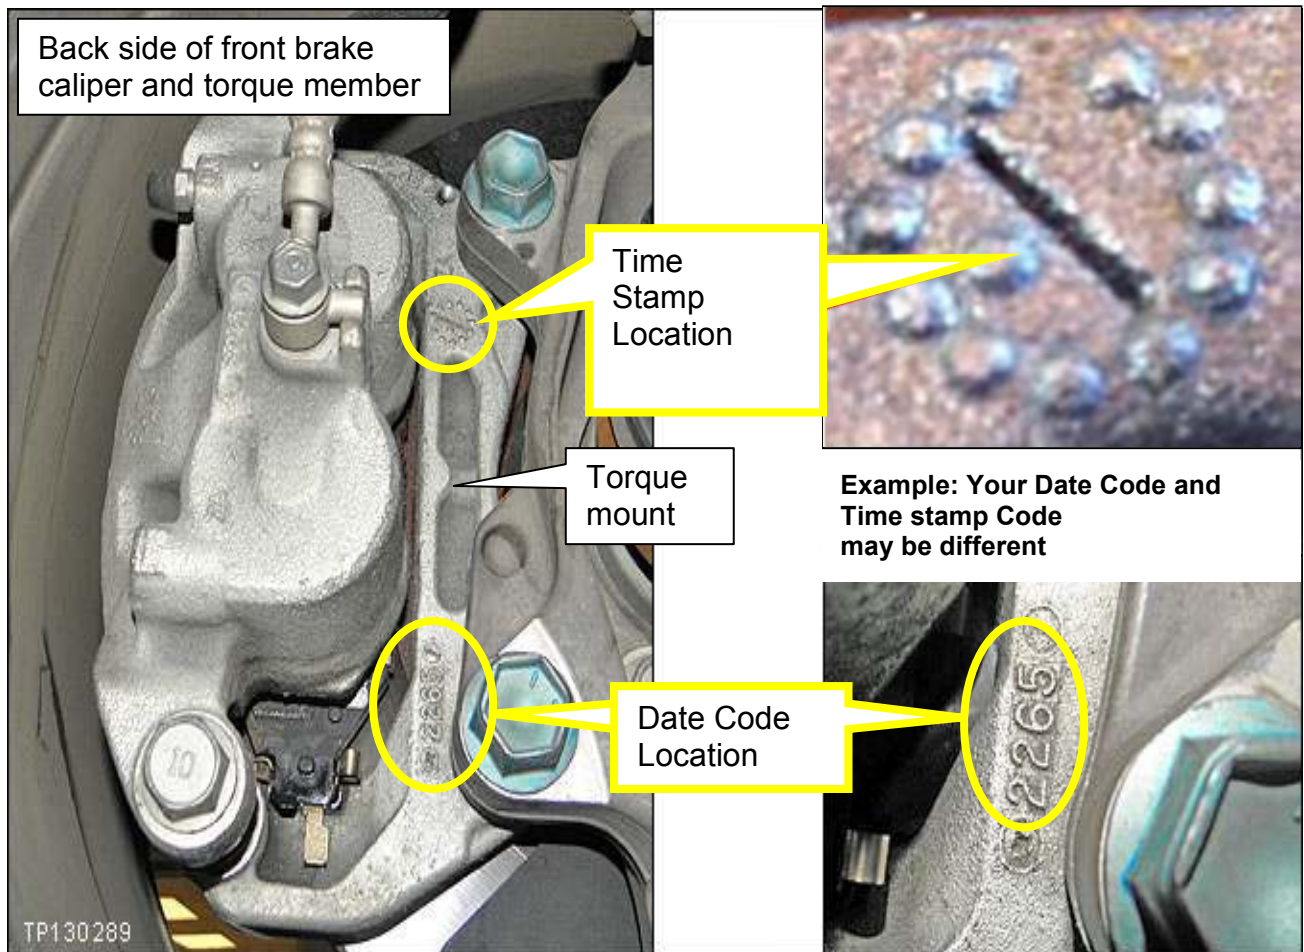

Figure 1
2. On the back side of the front brake torque members (both sides) locate the “Date Code” and “Time Stamp”. (see figure 1 below as an example of where to find these items).